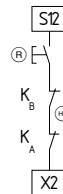

Fig. 3
**External reset button (with edge detection) (see Fig. 3)**